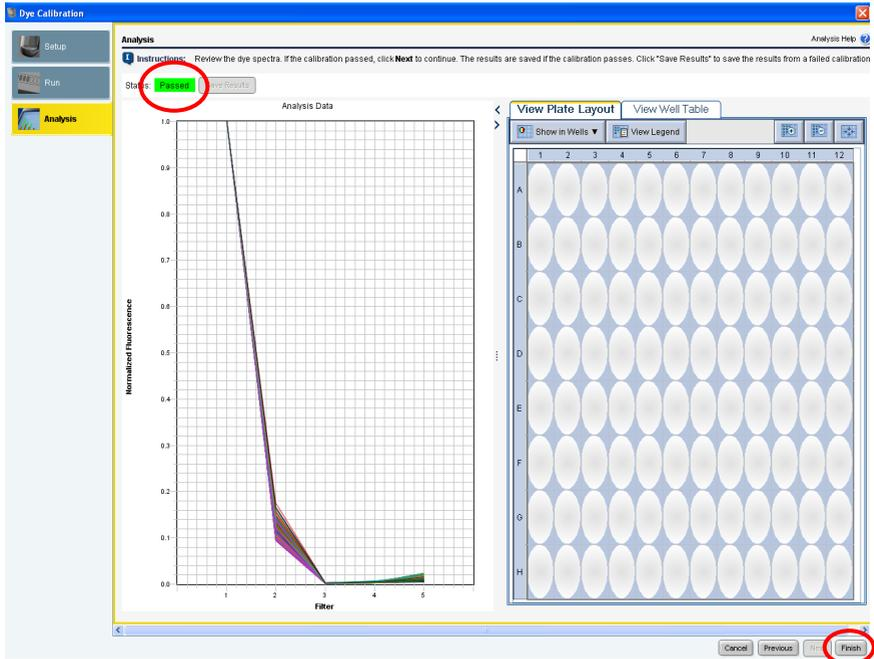

Figure 22. Display of dye spectra and status.
11. The spectra and the status (e.g., passed) will be displayed (Figure 22). Click **Finish**.